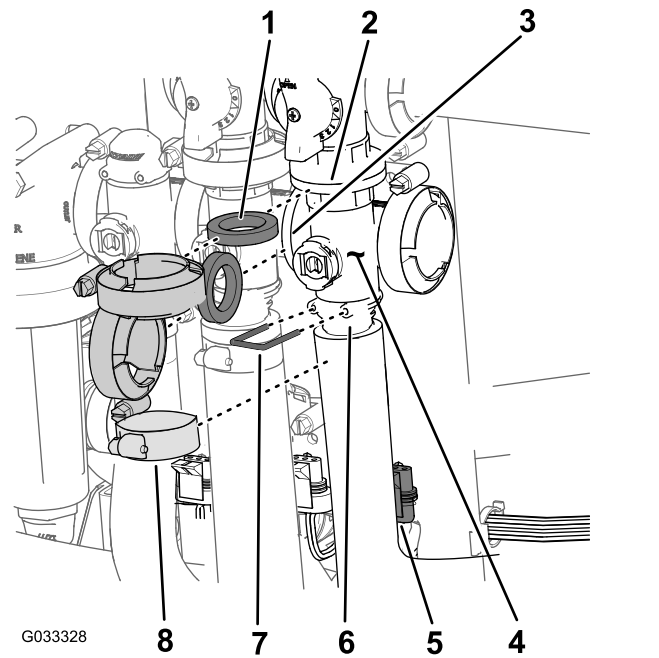

Figure 66
- Remove the clamps and gaskets that secure the manifold for the master-boom valve (Figure 66) to the master-boom-bypass valve, agitation valve, and master-boom-manifold valve (at the end of the hose for the flow meter).
- Remove the retainer that secures the outlet fitting to the manifold for the master-boom valve (Figure 66).